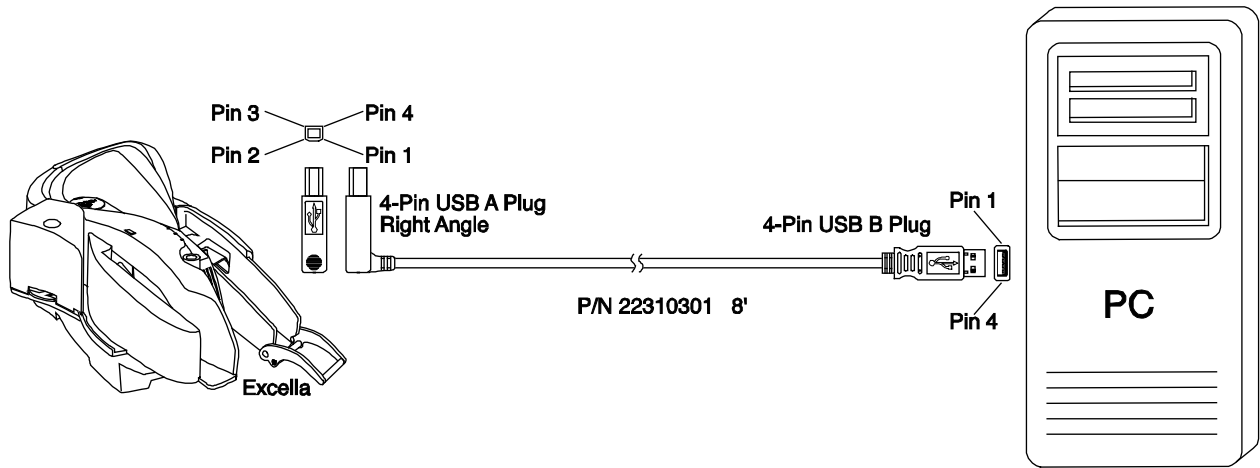

Figure 2-7. Cabling, USB, 4-pin, Right Angle, P/N 22310301
- USB – A-plug, 4-pin, right angle, P/N 22310301 shown in Figure 2-7 with pin list in Table 2-1